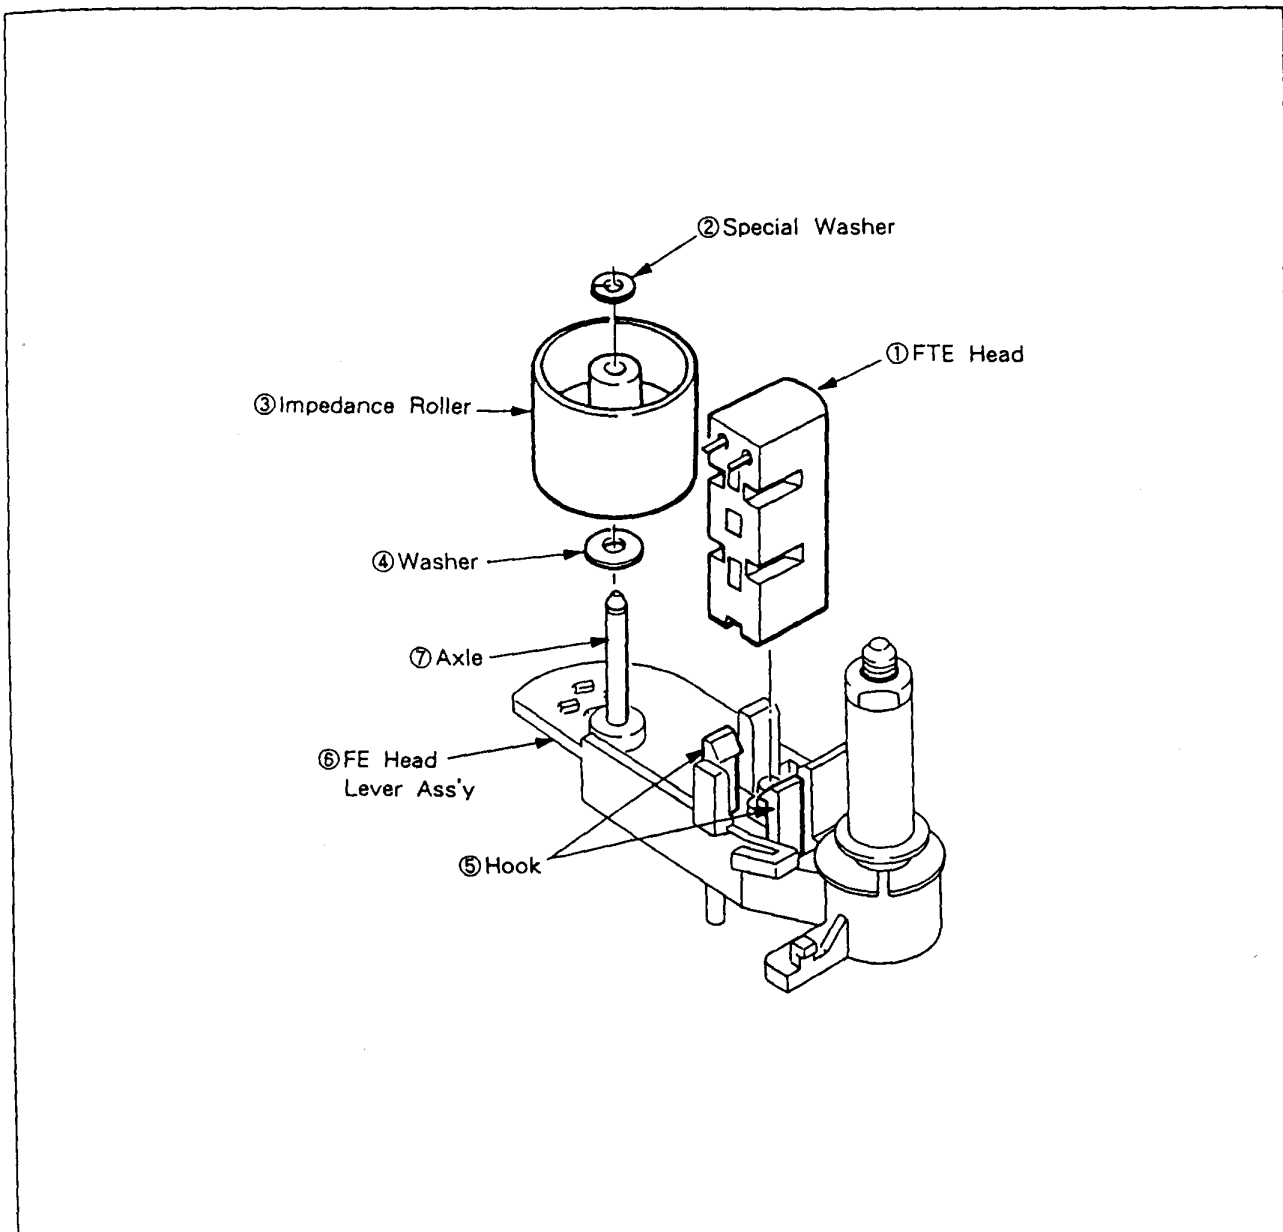

Fig. 5-10-2. Impedance Roller & FTE Head
**5-10-2. Impedance Rolly, FTE Head (See Fig. 5-10-2.)**